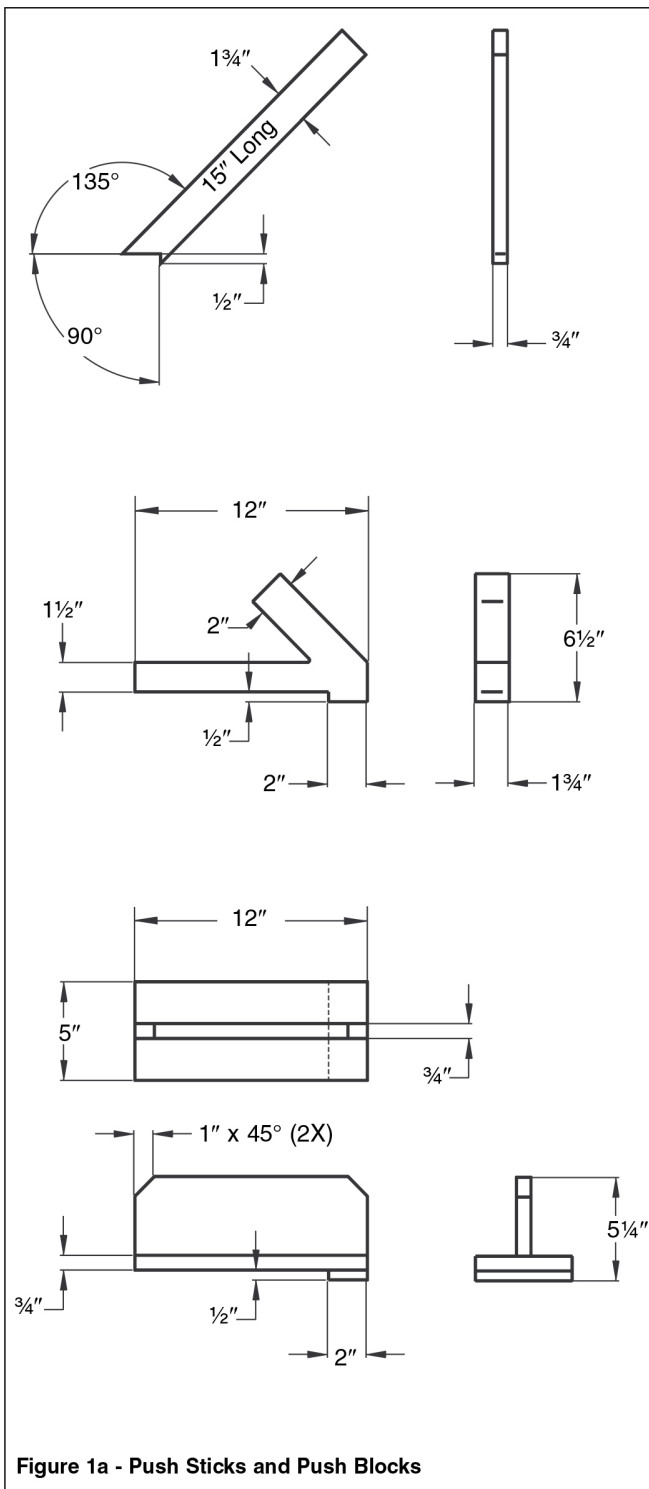

Figure 1a - Push Sticks and Push Blocks
- During rip and rip-type cuts, workpiece must be held down on table and against fence with a push stick, push block, or featherboards, as applicable (see Figures 1a and 1b, page 4).